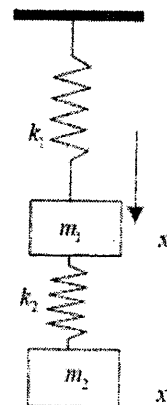

Figure 4
- B) Using matrix iteration method, Find out the natural frequencies and mode shapes for the system(Refer fig 4) (Assume $k_1=k_2=k$ and $m_1=m_2=m$)